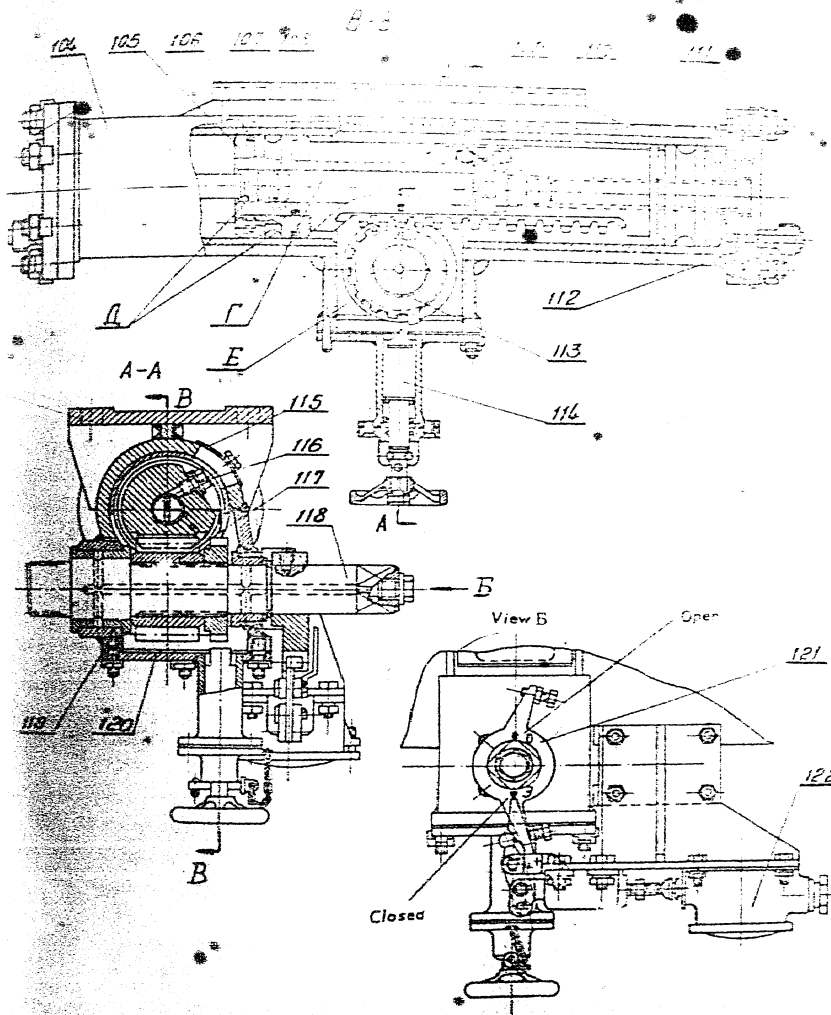

Fig. 13. Pneumatic Mechanism
12. Stop 114 is disengaged from ratchet wheel 113 (See Fig.13).
19. Check to see that stop 114 is disengaged from ratchet wheel 113 (Fig.13).